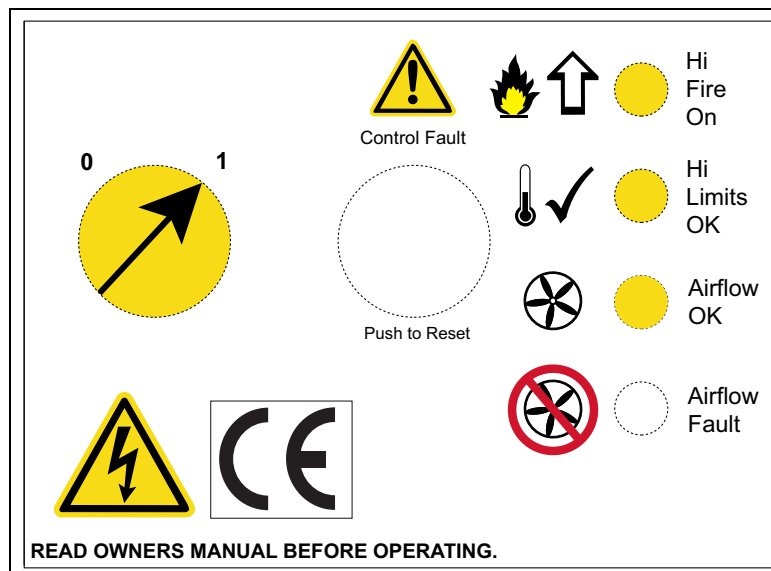

Figure 5P Normal Control Status
5. Check control indicator lamps for 'normal' status. (See Figure 5P.)